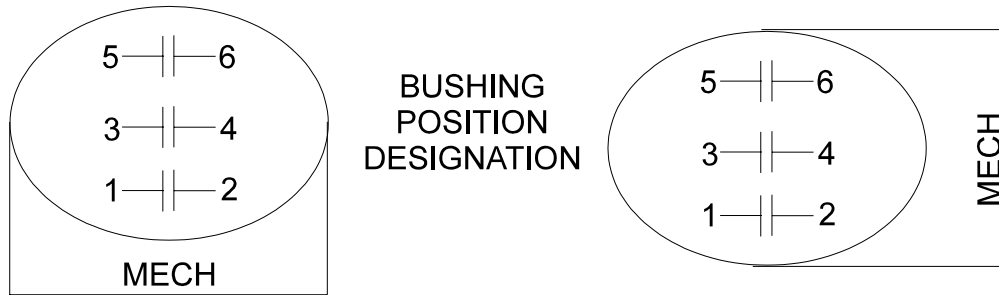

FIGURE 5-1 O.C.B. BUSHING POSITION DESIGNATIONS
4. Connect the ACTS-12K High Voltage lead to the High Voltage bushing in position 1 (refer to Figure 5.1). Keep the rest of the lead clear of the porcelain.
16. Repeat sections 5.1.2. and 5.1.3. on each bushing in turn (Positions 2-6, on Fig 5-1.)
4. Connect the ACTS-12K High Voltage lead to the High Voltage bushing in position 1 or 2 (refer to Figure 5.1). Note that these two bushings should be shorted together. Keep the rest of the lead clear of the porcelain.